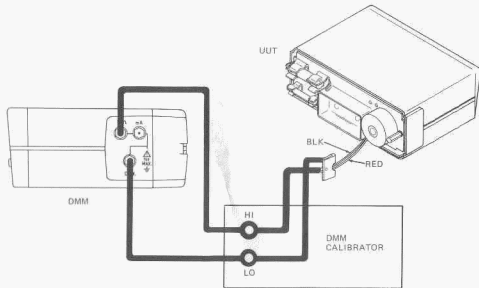

Figure 3-3. Battery Indicator Test Setup
(1) Remove battery from UUT (paragraph 2-3).
(2) Connect the equipment as shown in fig. 3-3.
(3) Set POWER switch of UUT to ON.
(4) Set DMM controls as follows: